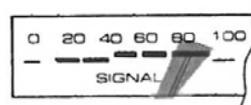

Fig. 8
4. Select the desired station by adjusting the tuning knob. The signal meter pointer will strongly deflect toward the right when accurate tuning is obtained, as shown in Fig. 8.